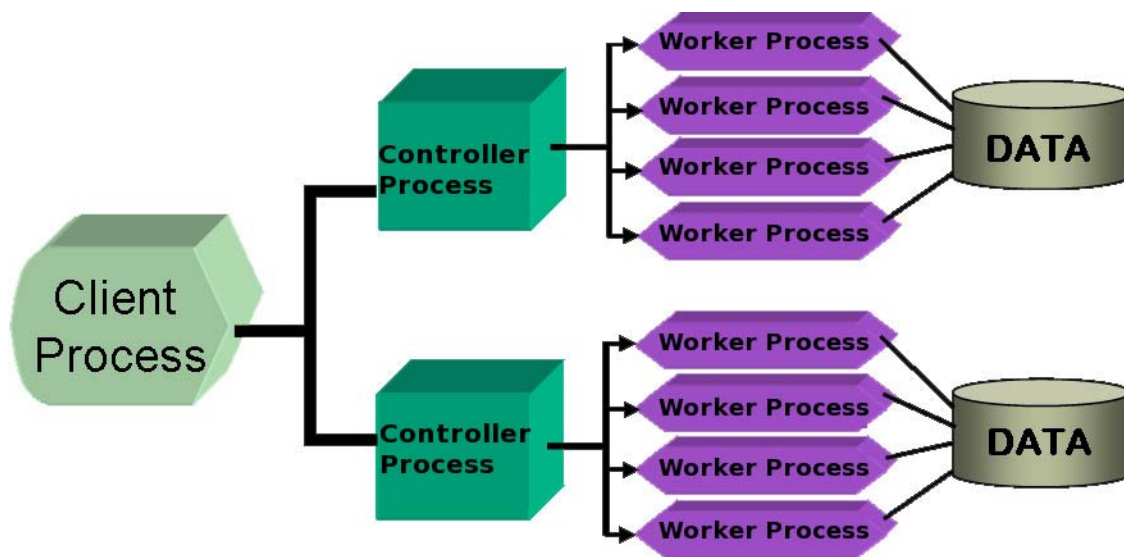

Figure 3: FV Parallel with Licensed Controller Processes
For the case of **FieldView** Parallel, following what is done for Client-Server, it is possible to run an unlimited number of server 'Controller' processes. What is licensed with the **FieldView** Parallel license is the total number of Worker Processes which can be run; the Controller processes are not counted towards this limit. In the example above (see Figure 3), we illustrate how it is possible to read two different datasets using a total of eight (8) worker processes, applying four (4) worker processes to each dataset. To do this, a **FieldView** Parallel license for 8 processes would be required.